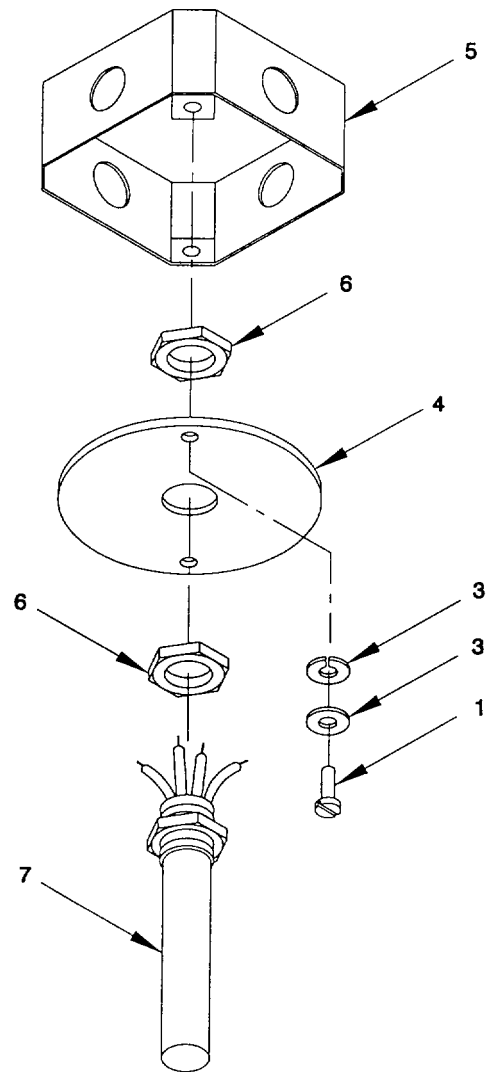

Figure 2-47. Thermal Detector, Electrical System, Remove/Install
a. *Remove*, (figure 2-47)
- (1) Remove two screws (1), lock washers (2), and flat washers (3). Collect box cover (4) from electrical box (5).
- (2) Disconnect and tag electrical wiring to thermal detector. Refer to Appendix G.
- (3) Remove two thin self locking nuts (6) from thermal detector (7) and box cover (4).
b. *Install*. (figure 2-47)
- (1) Install a thin self locking nut (6) to thermal detector (7). Install thin self locking nut (6) and the thermal detector (7), both, into mounting hole in box cover (4). Install a thin self locking nut (6) to the opposite side of the box cover (4), to the thermal detector (7) and tighten.
- (2) Reconnect electrical wiring, as tagged, to thermal detector. Refer to Appendix G. Use tie wraps to secure any loose wires.
- (3) Install box cover (4) and thermal detector (7) onto electrical box (5). Install two flat washers (3), two lock washers (2), and two screws (1) into electrical box (5).